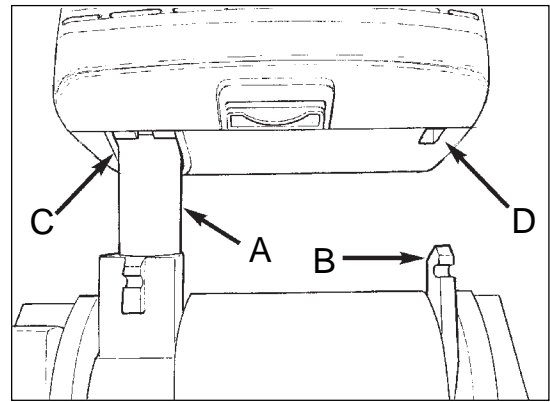

Figure 2
- a. Position canister housing over brush housing (see figure 2).
- b. Align pivot airway (A) and canister support pivot (B) with openings (C and D) in bottom of canister housing (see figure 2).